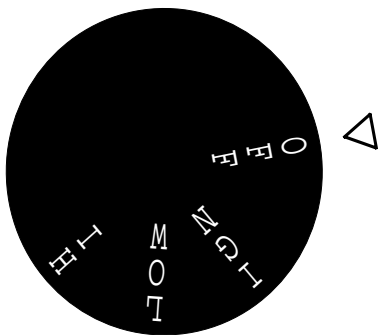

Figure 16
4. Depress control knob in and turn clockwise  to the "OFF" position (*Figure 16*).